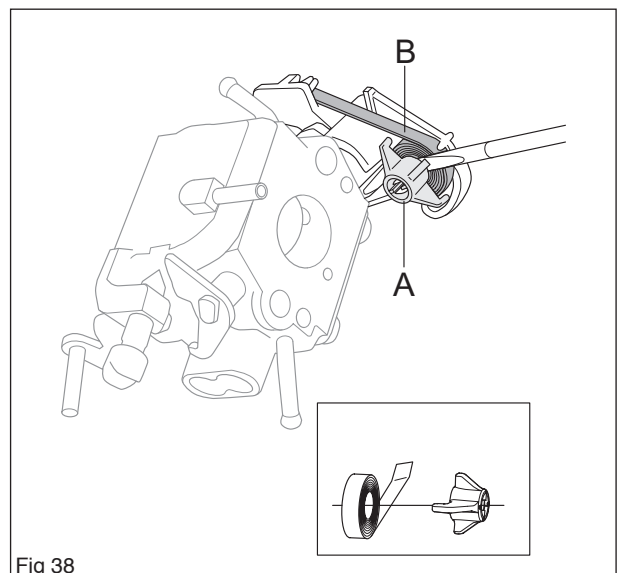

Fig 38
Release the locking sleeve (A) using a screwdriver. (see figure 38)
Dismantle the bimetal (B). (see figure 38)
Assembling the locking sleeve. (A) (see figure 38)